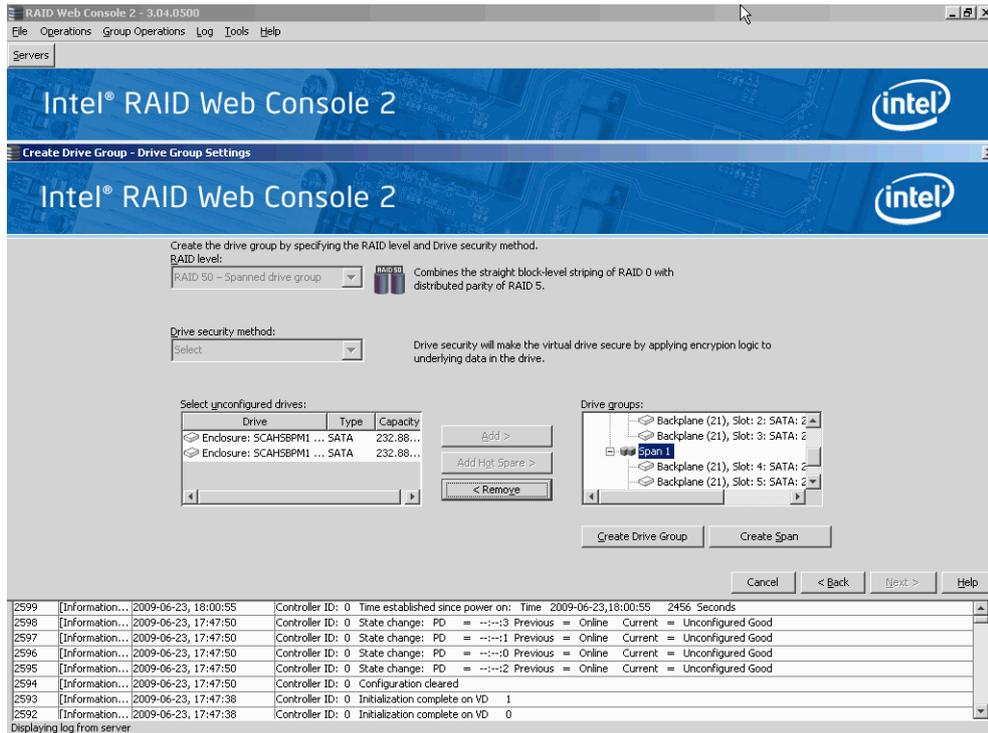

Figure 179. Span 0 and Span 1 of Drive Group 0
- e. The selected drives appear under **Span 1** below **Drive Group 0**, as shown in Figure 179